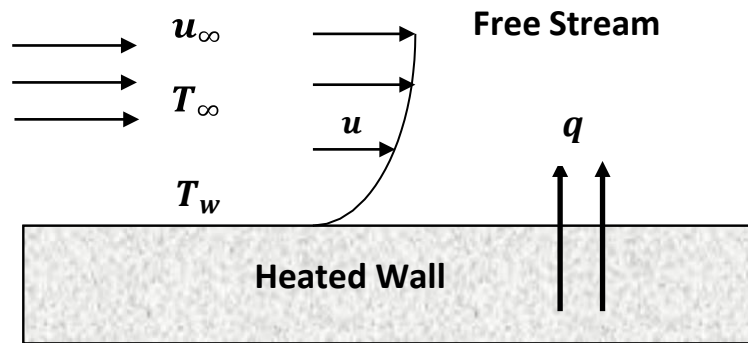

Fig. 7.1 Convection Phenomena
- As shown in Fig. 7.1 the velocity of fluid layer at the wall will be zero, the heat must be transferred by **conduction** at that point.